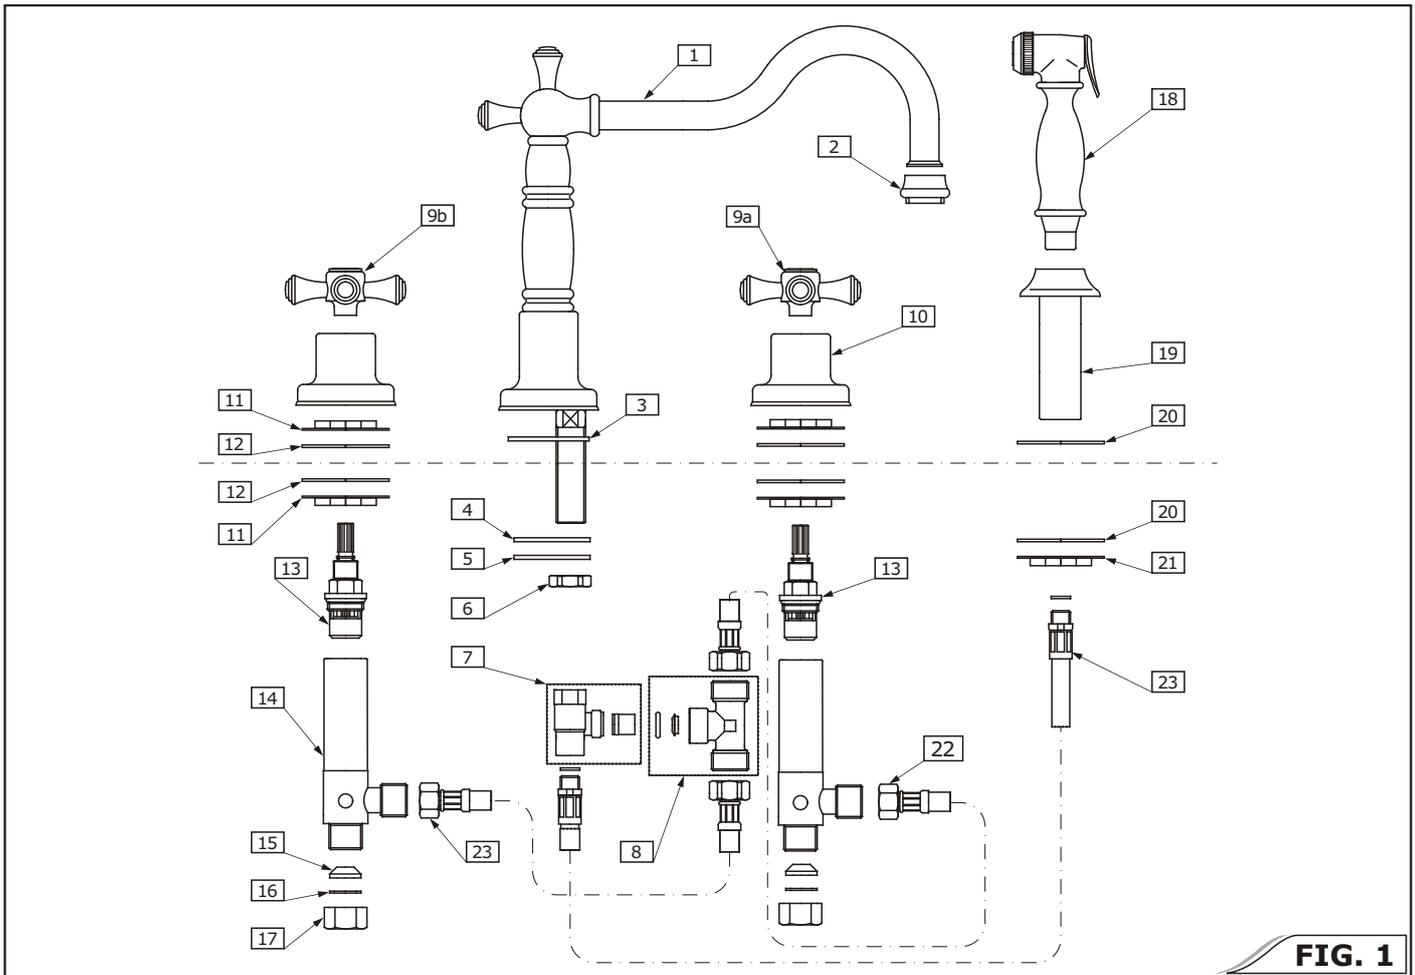
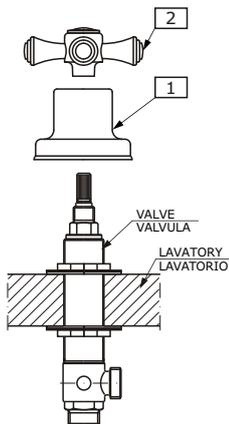

FIG. 1
FIG. 3a
2. Spin the bottom valve mounting nuts (2) all the way down the valve and remove the top nut and washers. Insert valve (1) up through the hole in the deck, then drop on the washers (3) and the top mounting nut.
4. Connect hose (22 fig.1) to the outlet connection of the valve. The other end of the hose should be connected to T-connection (8 fig.1).
See fig. 3a & 3b
● In case of **PESARO MODELS** (see fig. 3a): First screw shroud (1) onto valve until against the deck. Do not overtighten. Insert cross handles (see fig.1, items 9a & 9b) onto the valves. Make sure the LEFT cross handle with (H) cap is on the RED marked valve and the RIGHT cross handle with (C) cap is on the BLUE marked valve.